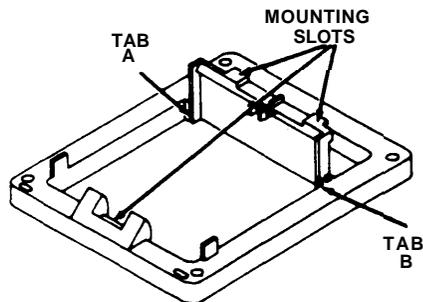

Figure 2
5. Insert Tabs A and B of the desk support into Slots A and B of the base (see Figure 2).